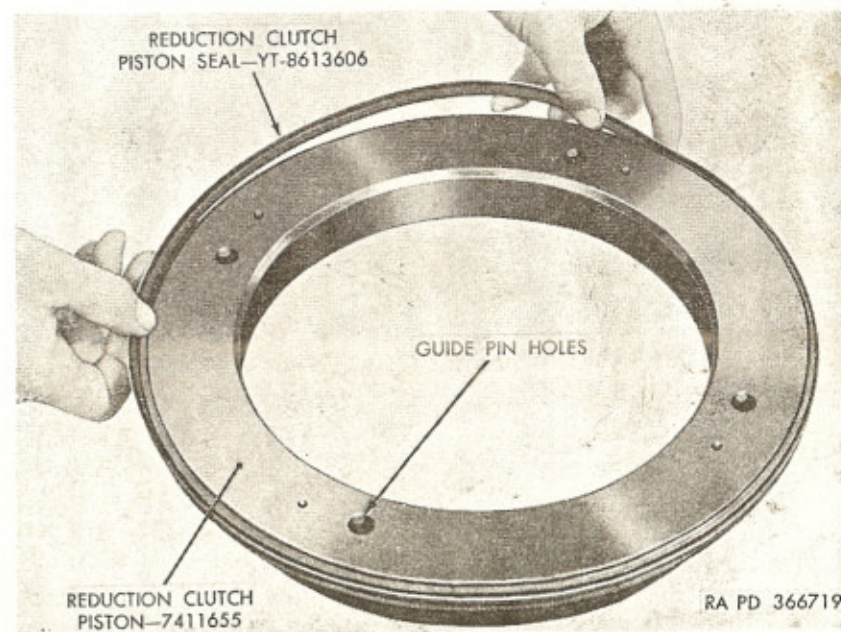

Figure 211. Installing reduction unit clutch piston seal (303M).
c. Install reduction clutch piston seal on clutch piston with lip of seal toward guide pin holes (fig. 211).